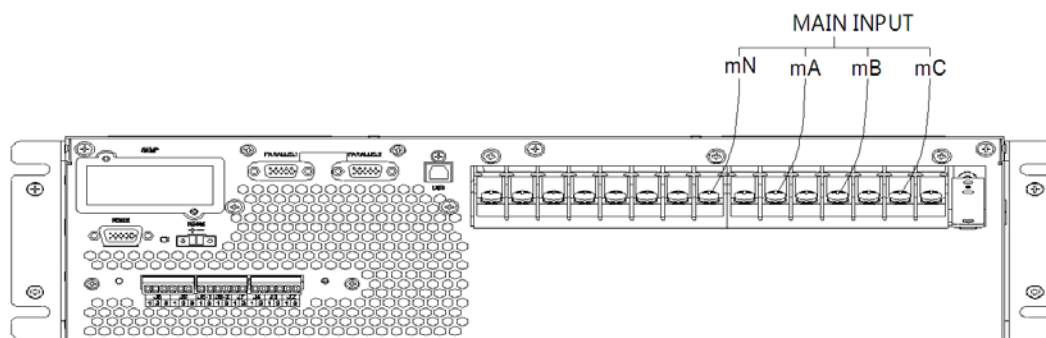

Fig. 3-13 Main line input connection diagram
a. Remove all copper bars, connect input cable only(no bypass/output/battery).As shown in Figure 3-13: